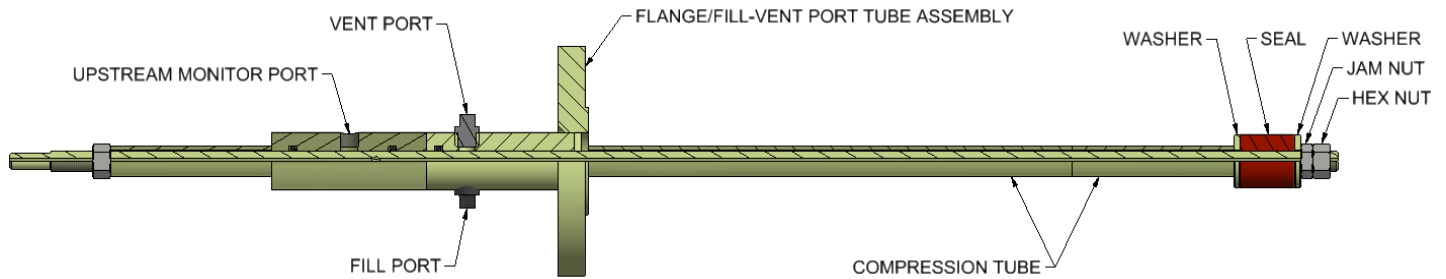

Figure 1: High Lift Flange Weld Test Plug, 3/4" and 1" Plug Sizes, Shown in WP Configuration
**HIGH LIFT FLANGE TEST & WELDING PLUG OPERATING INSTRUCTIONS****REPLACEMENT SEAL & WASHER PROCEDURE****3/4" – 1" Plug Sizes (refer to Figure 1)**